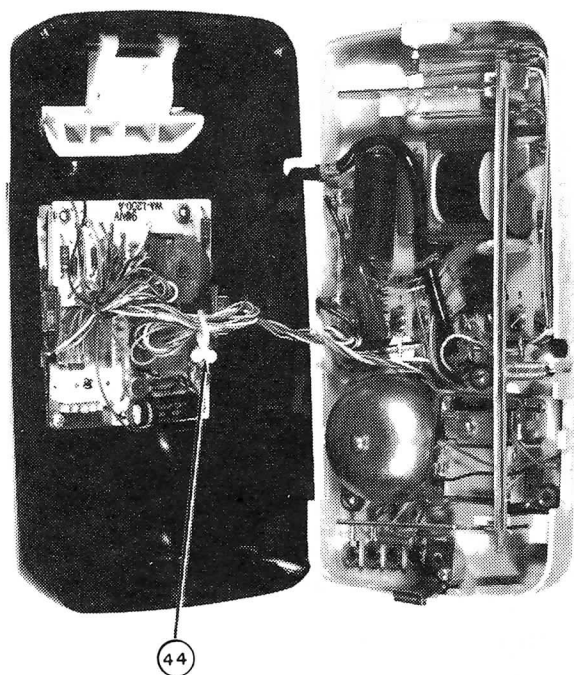

Figure 6. Interior View of the Type 192A Telephone.
- (d) Remove the wire clip (item 44) that bundles the TCU leads together as shown in Figure 6.